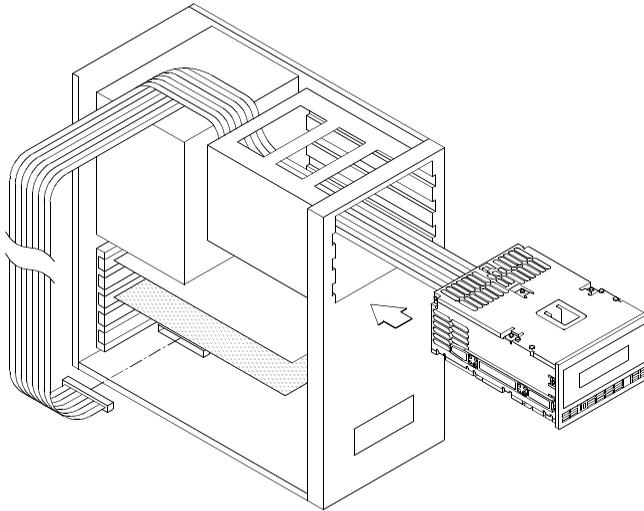

Figure 6 Inserting the drive into the drive bay and connecting the SCSI cable to the SCSI adapter card
5. Connect the SCSI cable to your SCSI adapter card (see Figure 6).